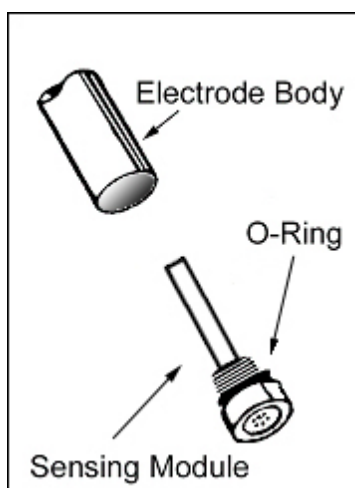

Figure 4: replacing the Sensing Module
1. The AC020 sensing element comes premounted on the end of the electrode with a protective bottle, but can be removed by unscrewing the electrode end. **Caution: Do not touch the PVC membrane with your fingers or over tighten the sensing element** (see Figure 4)